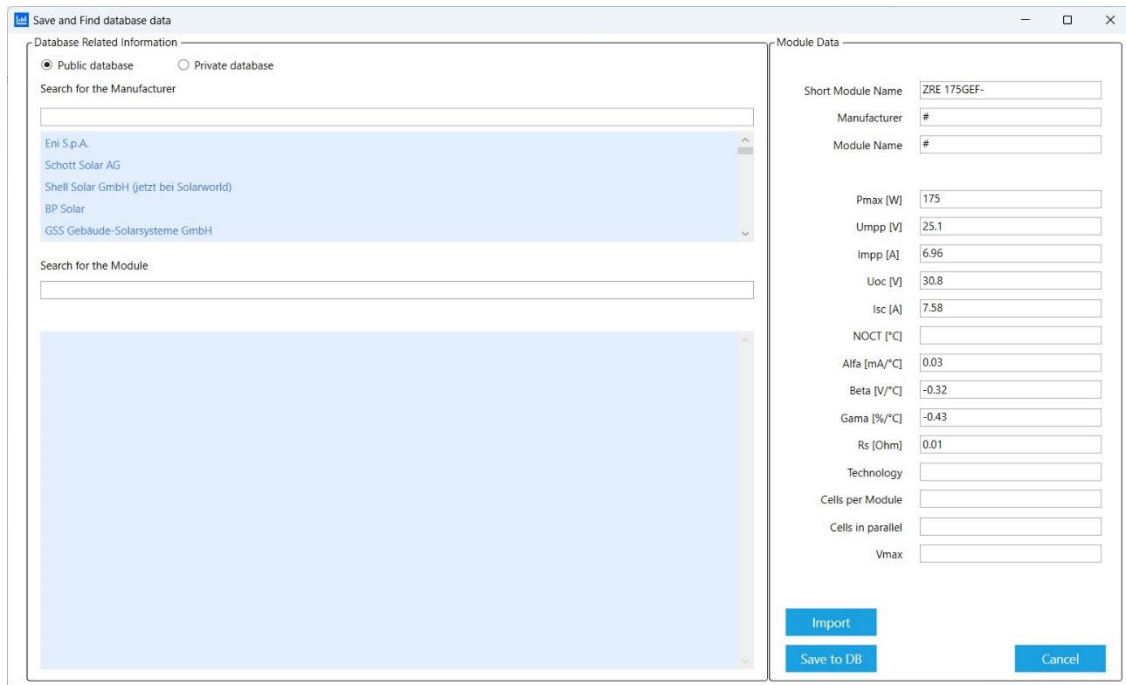

Figure B.10: PV Module database handling window
-  Click database icon within header to open Save and Find database data window, see Figure B.10.